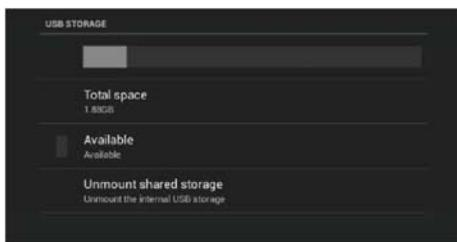

FIG. 16 USB Storage
- If a USB storage option is connected to the panel, the USB Storage section will display the panel’s total used space and total available space, as well as give the option to unmount the storage device (FIG. 16).
2. This opens the Unmount USB storage? window (FIG. 16):